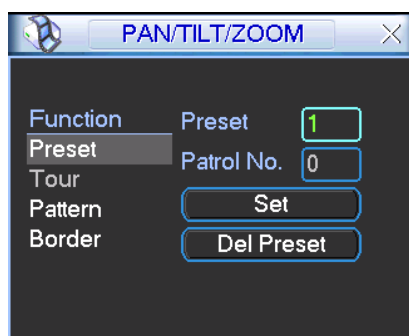
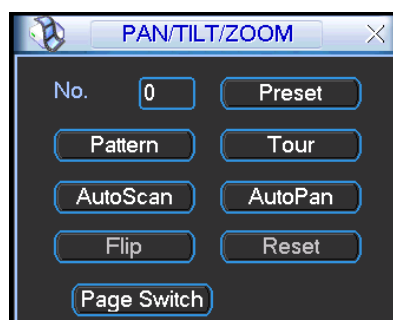
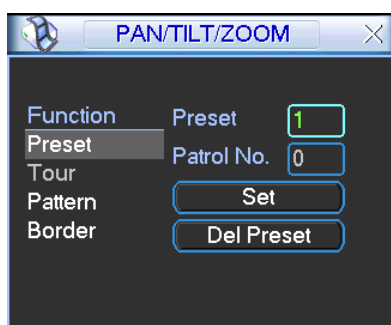

Figure 4-40
Figure 4-41
Figure 4-42
In Figure 4-37, please click the “set” button. The interface is shown as below. See Figure 4-40. Here you can set the following items:
In Figure 4-37, click page switch button, the interface is shown as in Figure 4-41.
- The following setups are usually operated in the Figure 4-37, Figure 4-40 and Figure 4-41.
In Figure 4-40, click preset button and input preset number. The interface is shown as in Figure 4-42.
In Figure 4-41, please input preset number in the No. blank, and click preset button.
In Figure 4-40, click patrol button. The interface is shown as in Figure 4-43. Input preset number and add this preset to a patrol (tour). For each patrol (tour), you can input max 80 presets.
In Figure 4-40, input patrol (tour) number in the No. blank and click patrol button
In Figure 4-40, click pattern button and then click "begin" button. The interface is shown as in Figure 4-44. Then you can go to Figure 4-37 to modify zoom, focus, and iris.
In Figure 4-41, click “Auto Scan” button, the system begins auto scan. Correspondingly, the auto scan button becomes Stop button. Click stop button to terminate scan operation.
In Figure 4-41, click page switch button, you can see an interface is shown as below. See Figure 4-46. Here you can set auxiliary function. The aux value has relationship with the Aux button of the decoder.